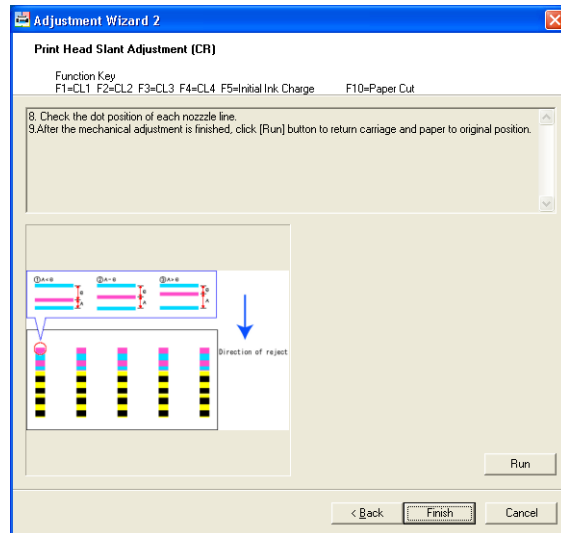

Figure 5-41. [Print Head Slant Adjustment (CR)] Screen (3)
- The two intervals are the same: No need to make the adjustment. Click the [Next] button twice to display the Screen 3 (Figure 5-41) and click the [Run] on the screen. The Carriage Unit will return to its home position and the roll paper will be reeled off. Click the [Finish] button to exit out of the adjustment menu.